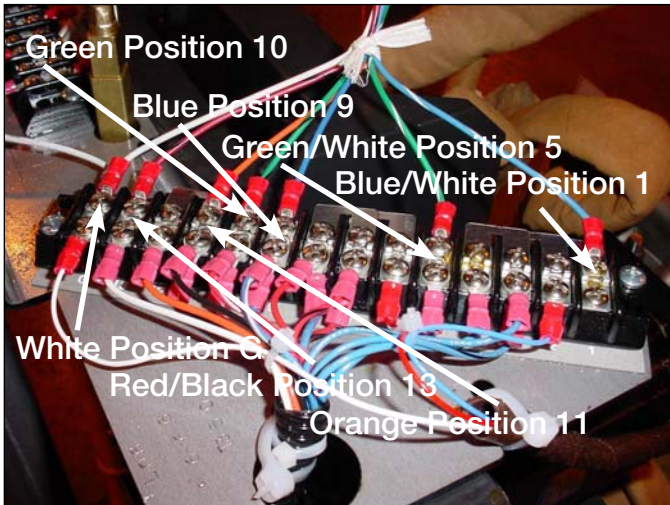

Figure 6.
- Using a Phillips head screwdriver, loosen and remove the TCB terminal board leads from the 14 position terminal board located on the top right of the QD3 tap changer. See Figure 6. The lead color and termination points are as follows: